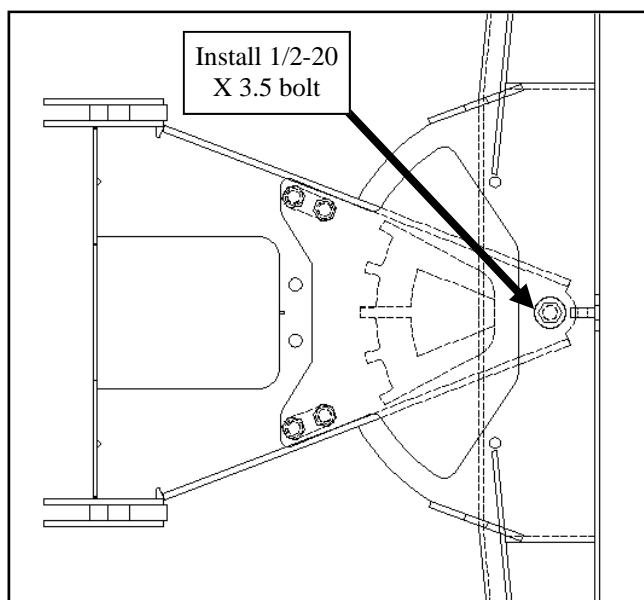

Fig. 6.2—A-Frame and Trip Frame
- 6.2 Per fig. 6.2, slide the A-Frame into the trip frame pocket, aligning the 1/2" bolt holes on both assemblies. Install the 1/2-20 x 3.5" hex head bolt with a 1/2" washer under the head of the bolt and under the lock nut. Tighten until all slack is removed from the bolt while the A-frame is allowed to rotate freely in the trip frame pocket.